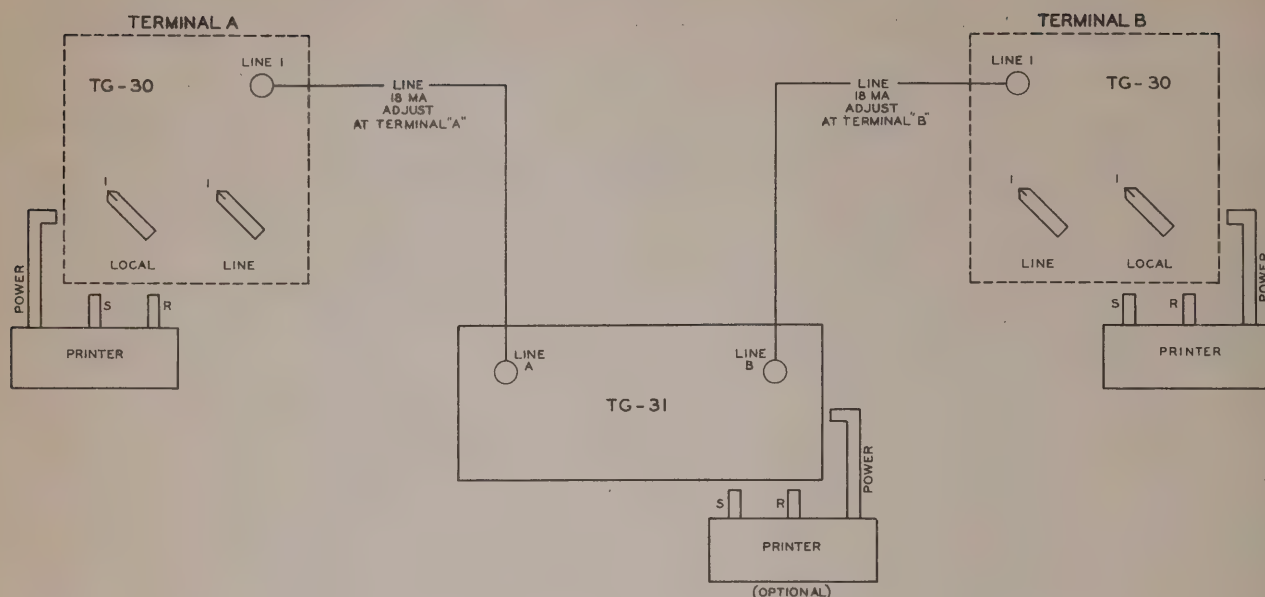

Figure 3 - Operation with Repeaters TG-30 at distant terminals
17. OPERATION TO DISTANT TERMINALS, EACH USING REPEATER TG-30 (TERMINAL) (FIG. 3).—The distant Repeaters TG-30 at terminal A and terminal B should be arranged as polar-sending repeaters (LINE switch in position 1). The line current should be adjusted at both terminal repeaters. At the Intermediate Repeater TG-31, no adjustments other than voltage adjustments are required. Connect the ground lead, the line wires, and the power cord or leads. Then throw power switches, and adjust the voltage as covered in paragraphs 14, 15, and 16. When the power supply is alternating current or 115 volts d-c (gas-engine power unit), a printer may be employed as covered in paragraph 16e.